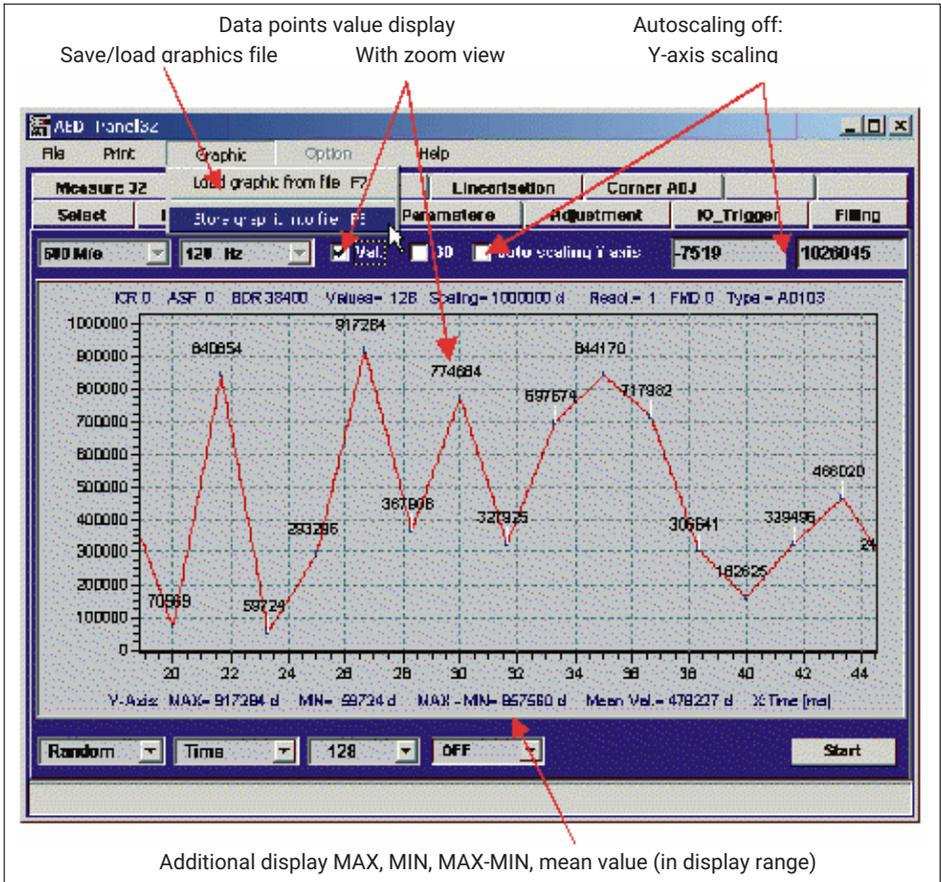
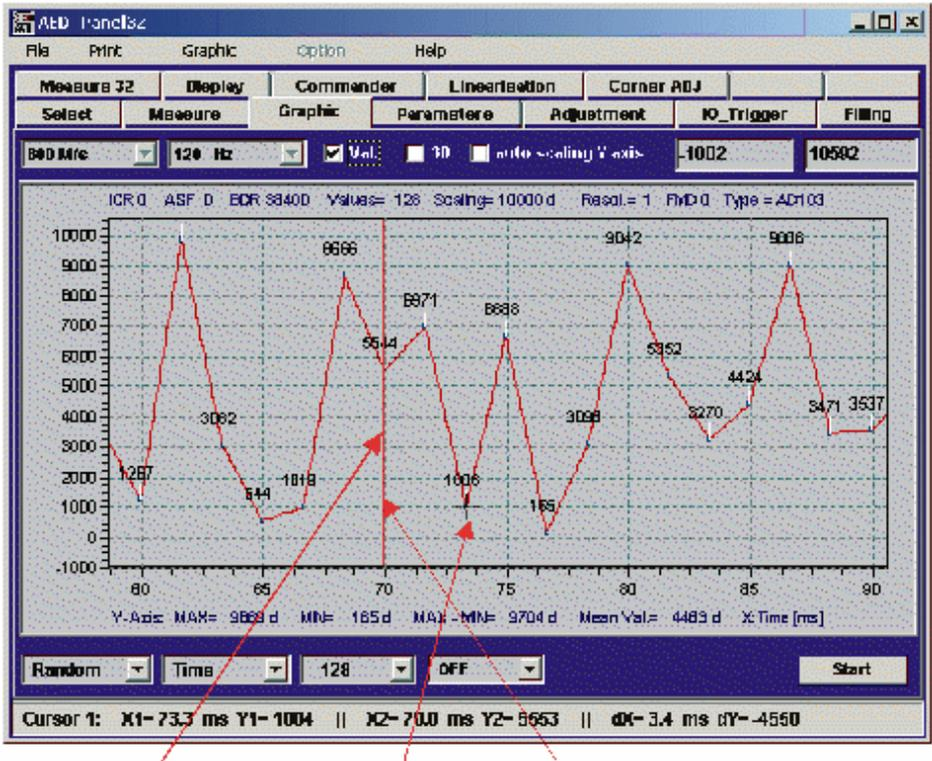

Fig. 5.3 Zoom view with measured value display
Fig. 5.4 Cursor view with cursor X1/Y1 and X2/Y2
Fig. 5.3 and Fig. 5.4 show additional functions in the Graphics menu.
Zoom function (Fig. 5.3)
Cursor measurement (Fig. 5.4)
- Save the measurement in the *.grf file and evaluate it (cursor, zoom, etc., see Introduction, Fig. 5.3)